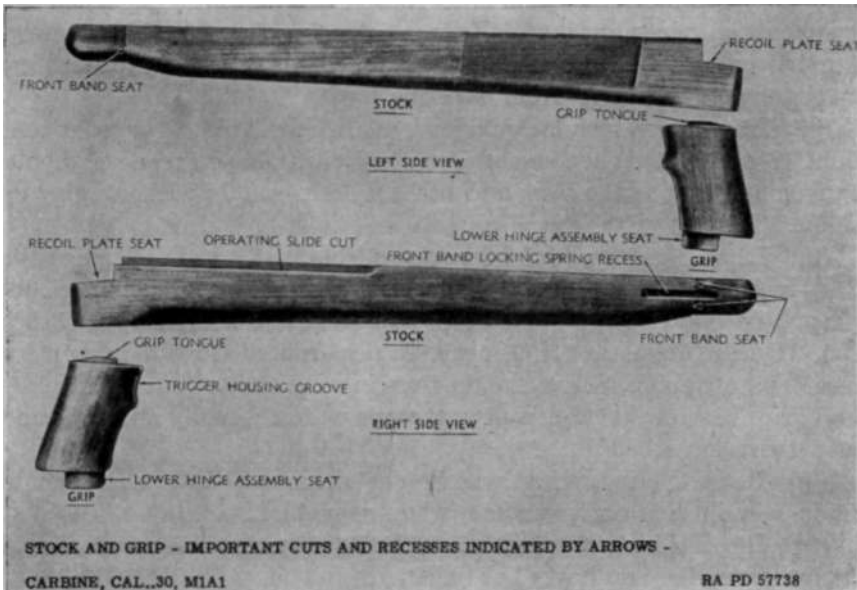

Figure 61. Stock and grip — carbine, cal. .30, M1A1.
c. STOCK (M1A1) (figs. 61 and 62.) (1) Inspect hand guard and parts common with M1 stock, as prescribed in *b* above.
(2) Inspect grip for looseness on stock and for cracks. Grip should be rigid with stock and no twist should be possible when assembled.
(3) Inspect stock extension for smoothness of hinge action and positive locking when extended and when folded. The extension should be rigid and without shake when extended with butt plate rigidly at right angles to the bars. When swung to the left, the lock should cam out of the slot in the locking nut, and the extension should pivot smoothly about the hinge screw through an arc of approximately 180° to lie flat against the left side of the stock. When the extension is pressed flat to the stock, the lock should slip into the slot in the locking nut and the butt plate should pivot on the bar ends, so that the extension will lie locked close to the stock without looseness or shake. If shake is present in either position, a worn locking lug or locking nut, a loose hinge screw, or a broken hinge spring is indicated. If pivoting is jerky, or binding is apparent, burrs on locking lug or in slot of locking nut or bent bars are indicated. If butt plate is loose on bars or fails to pivot under spring tension, burrs or a damaged butt plate spring are indicated.